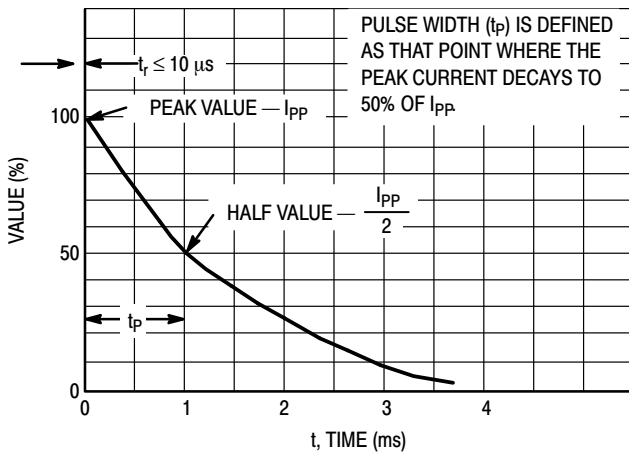

Figure 4. Pulse Waveform
- Peak Power – 40 W @ 1.0 ms (Bidirectional), per Figure 4 Waveform
1. Nonrepetitive current pulse per Figure 4 and derate above $T_A = 25^\circ\text{C}$ per Figure 5.
4. Surge current waveform per Figure 4 and derate per Figure 5